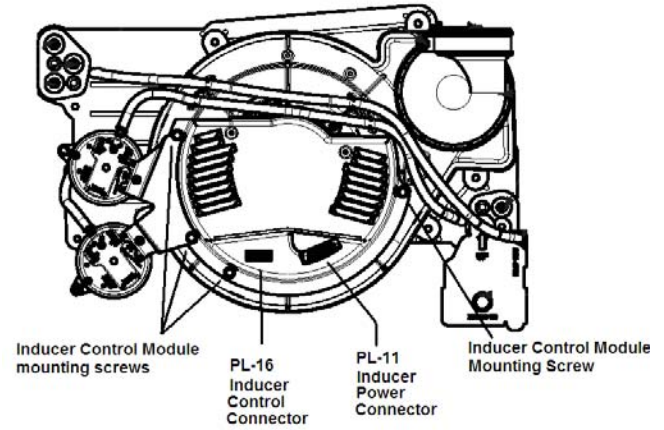

Figure 2 – Inducer and Pressure Switch Assembly
NOTE: There are two connectors plugged into the Inducer Control Module. The 3-circuit Inducer Control Connector PL16 has the BROWN, YELLOW, and ORANGE leads which supply the inducer PWM signal and the RPM feedback signal to/from the Inducer Control Module. The 3-circuit Inducer Power Connector PL11 has the BLACK, WHITE, and GREEN leads which supply 115 VAC to the Inducer Control Module. See Fig. 2.
1. Reconnect 3-circuit Inducer Control Connector PL16 to the Inducer Control Module. DO NOT force. See Fig. 2.
2. Reconnect 3-circuit Inducer Power Connector PL11 to the Inducer Control Module. DO NOT force. See Fig. 2.